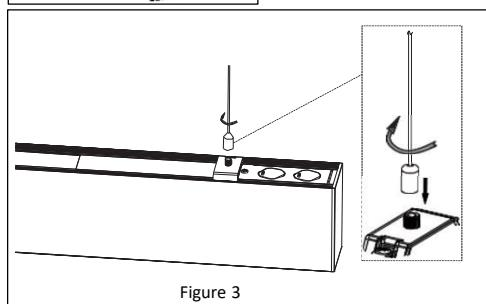

Figure 3
7. Connect the opposite end of the sling to the threaded mount on the fixture. *See Figure 3.*